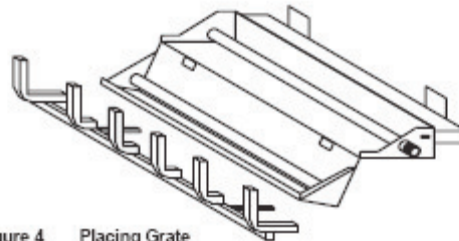

Figure 4 Placing Grate
- Install the grate by placing the inserts (attached to the grate) into the slots provided in the burner pan. Slide the inserts into the slots (Figure 4) and push the grate as far as possible to the locked position.
- For propane (LP) installations skip to "J for Propane Gas Installation".